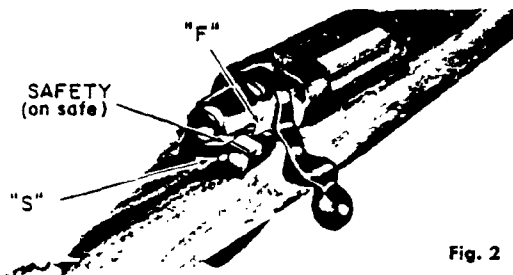

Fig. 2
**SAFETY (Fig. 2)** — Close bolt and rotate safety to rear stop position marked "S" on receiver. Side lever type safety is located at right rear of receiver. With safety in rear stop (ON SAFE) position, trigger cannot be pulled to fire rifle and bolt handle cannot be raised to unlock and open action.